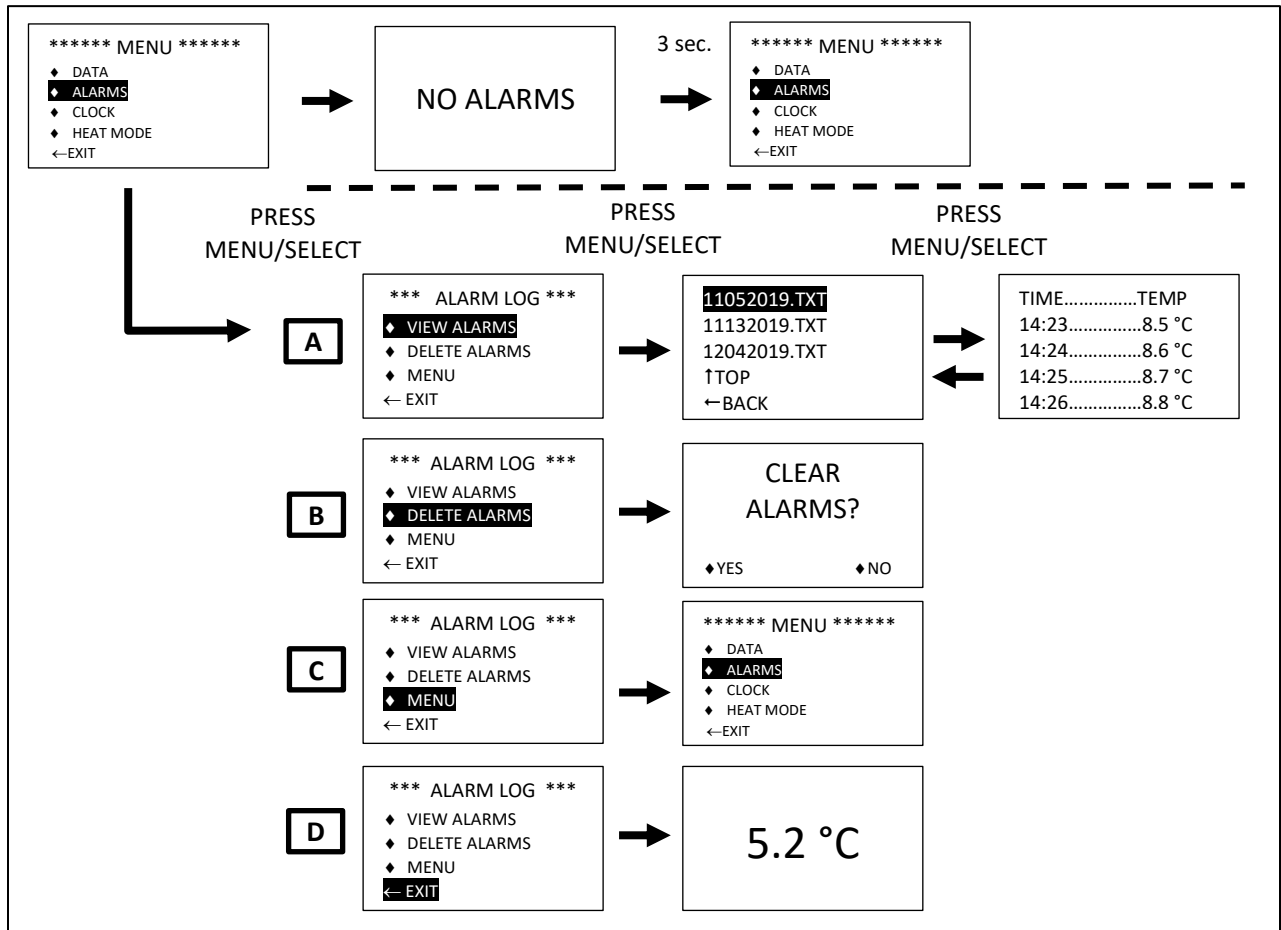

Figure 15: xFridge Alarm Log Menu
To access the ALARM LOG, press MENU/SELECT and use the ▲ and ▼ to highlight “ALARMS” then press MENU/SELECT again. This will bring up a menu with the ability to VIEW or DELETE files as shown in Figure 15. If there are no alarms, the screen will inform the user and return to the main Menu. More information on Alarms can be found in Section 2.3.2.
- To VIEW files, use the ▲ and ▼ buttons to highlight “VIEW ALARMS” and press MENU/SELECT button (Refer to Figure 15 Row A). Use the ▲ and ▼ buttons to highlight desired file and press MENU/SELECT. This will open the alarm log for that date. Press MENU/SELECT again to return to the list. Highlight and MENU/SELECT “TOP” to jump to the first file or “BACK” to return to the ALARM LOG menu.
- To DELETE files, use the ▲ and ▼ buttons to highlight “DELETE ALARMS” and press MENU/SELECT button (Refer to Figure 15 Row B). This will navigate to a screen for the user to confirm the selection. Press the MENU/SELECT to confirm and DELETE all Alarm data files OR press the ▼ button to return to the ALARM LOG menu and leave the Alarm files stored in memory.
- To return to the MENU, use the ▲ and ▼ buttons to highlight “MENU” and press MENU/SELECT (Refer to Figure 15 Row C).
- To return to Temperature Display Mode, use the ▲ and ▼ buttons to highlight “EXIT” and press MENU/SELECT (Refer to Figure 15 Row D).